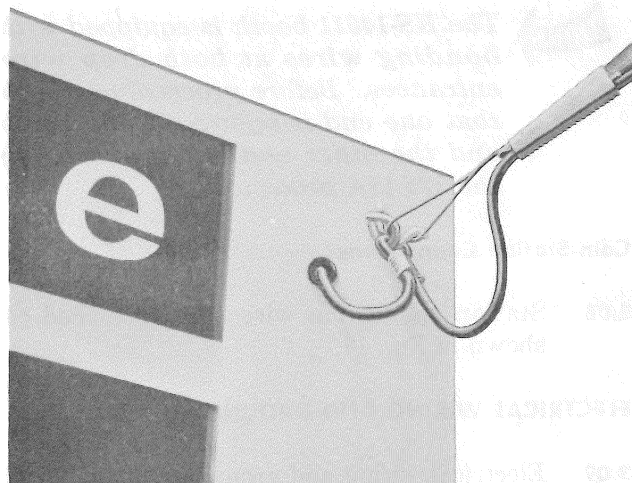
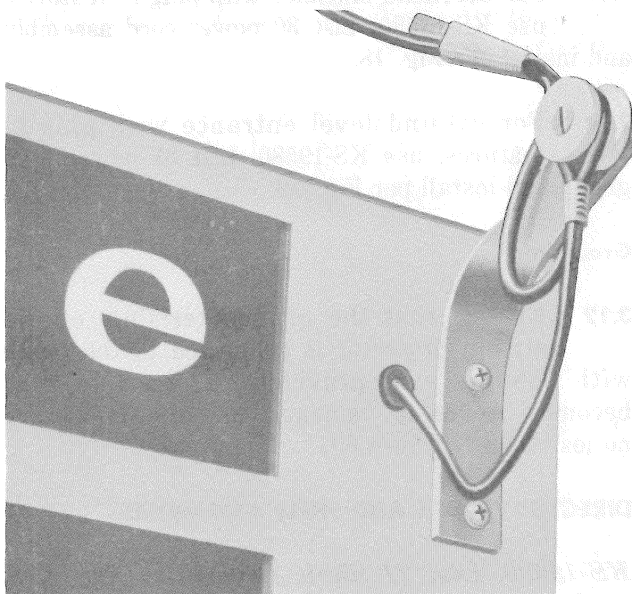

Fig. 15—Drop Wire Hook For First Attachment
Fig. 16—Corner Bracket For First Attachment
- 3.06** Attach drop wire hook (Fig. 15) or corner bracket (Fig. 16) (whichever is required) on right-rear column adjacent to the entrance hole as follows: